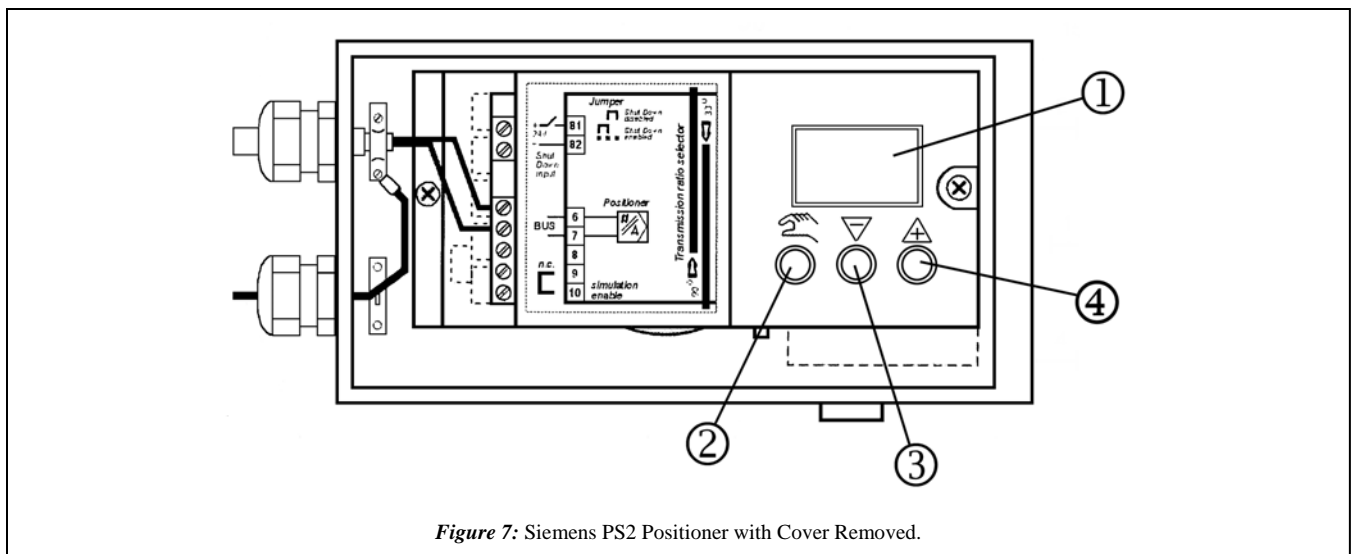

Figure 7: Siemens PS2 Positioner with Cover Removed.
STEP 14: Remove the cover from the Siemens PS2 positioner if necessary. Press the button with the hand symbol (see ② in Fig. 7) repeatedly until “MAN” appears in the lower right corner of the display (see ② in Fig. 7).
STEP 15: Now press the buttons with the + symbol (see ④ in Fig. 7) and the – symbol (see in ③ Fig. 7) to manually actuate the RF Valve® open and close respectively until the lower right corner of the display (see ② in Fig. 7) shows “MAN75”.
STEP 16: Press and hold the button with the hand symbol (see ② in Fig. 7) for at least 5 seconds. This will put the Siemens PS2 positioner into Configuration & Initialization mode.
STEP 17: Press the button with the hand symbol ② repeatedly until the display ① shows “4 INITA” on the bottom (Fig. 7).
STEP 18: Press and hold the button with the + symbol (see ③ in Fig. 7) for at least 5 seconds. This will begin the automatic calibration of the Siemens PS2 positioner. It may take a few minutes to go through the calibration routine.
STEP 19: Calibration is accomplished once “FINISH” appears on the display ①. Briefly press the button with the hand symbol ② and “4 INITA” should appear on the display ① (Fig. 7).
STEP 18: Now press and hold the button with the hand symbol ② for at least 5 seconds and the Siemens PS2 positioner will reset and put itself in manual mode where “MAN” appears in the lower right of the display ① (Fig. 7).
STEP 20: Briefly press the button with the hand symbol ② again and the Siemens PS2 positioner will go into automatic mode with “AUT” (or it may show “OS S”) appearing in the lower right of the display ① (Fig. 7).